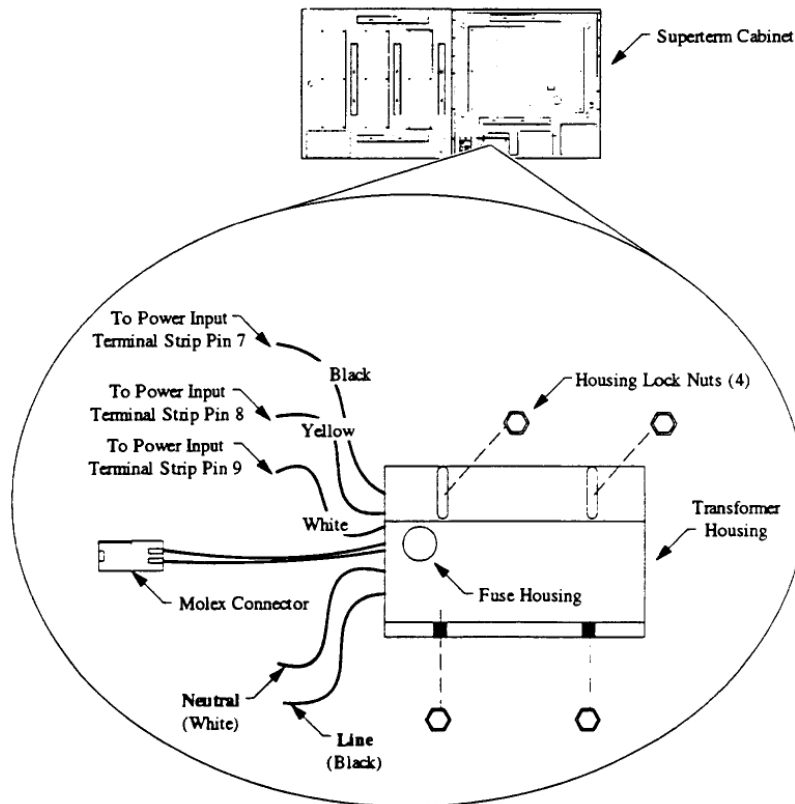

Figure 58 - Replacing the Superterm Transformer Assembly
- 1) Open the Superterm cabinet and locate the transformer assembly secured to the lower left-hand ledge of the Superterm cabinet (see Figure 58).
- 8) Remove the four (4) lock nuts securing the transformer assembly to the Superterm cabinet.